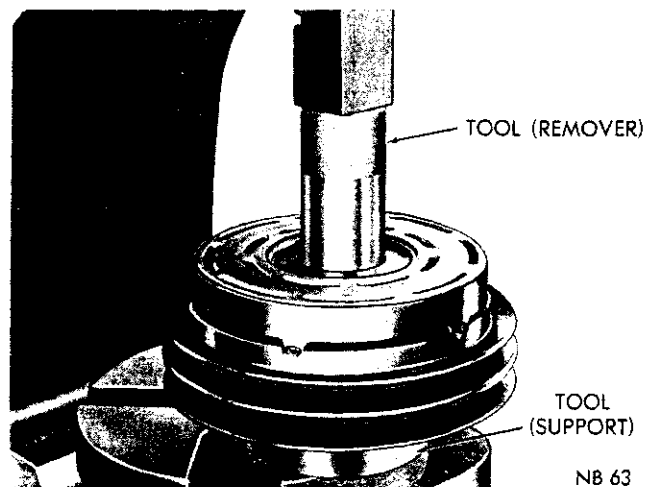

Fig. 3—Removing Bearing From Pulley Assembly
- (4) Place pulley assembly on an arbor press, with pulley side down, and bearing hub centered on Tool C-3835. Install Tool SP-3496 on inner race of bearing and press the bearing from pulley assembly (Fig. 3).